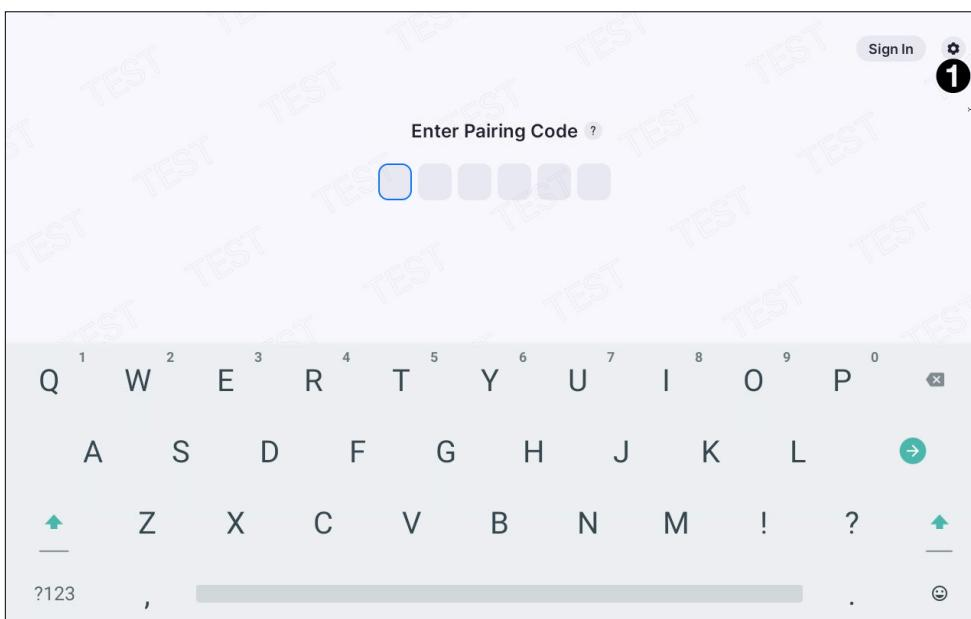

Figure 7. Click Settings Icon
Click the **settings** icon (see figure 7, ①).